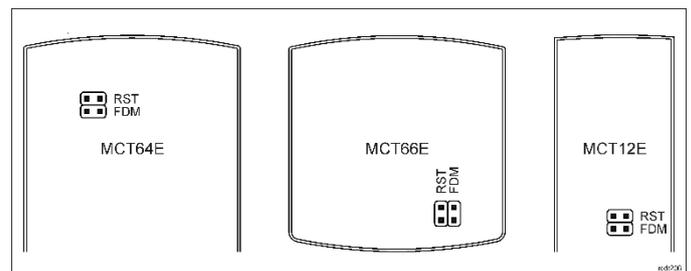

Fig. 2 Service contacts.
Note: Remote configuration of device from VISO v2 software is possible only if jumper is placed on MEM contacts (fig. 2). If the jumper is removed, then such configuration is blocked. In case of factory new device, jumper is placed on MEM contacts.
In RACS 5 v2 system the reader can be installed at site without previous configuration. According to AN006 application note, its address and other settings can be configured from VISO v2 management software and during such configuration the access to its service contacts (fig. 2) is not required.
2. Place jumper on FDM contacts (fig. 2).